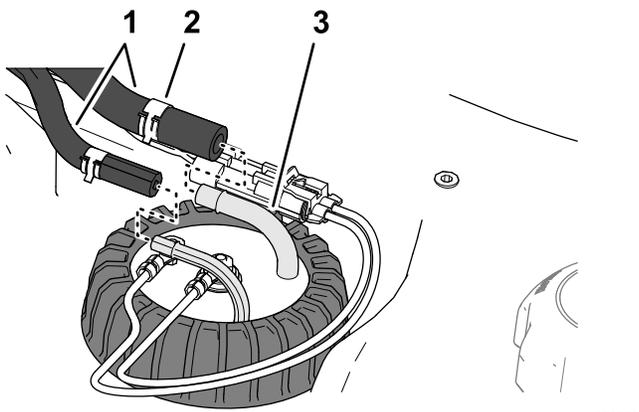

Figure 84
4. Move the clamps that secure the hoses to the fittings of the fuel sender inboard, and remove the hoses from the fittings (Figure 84).